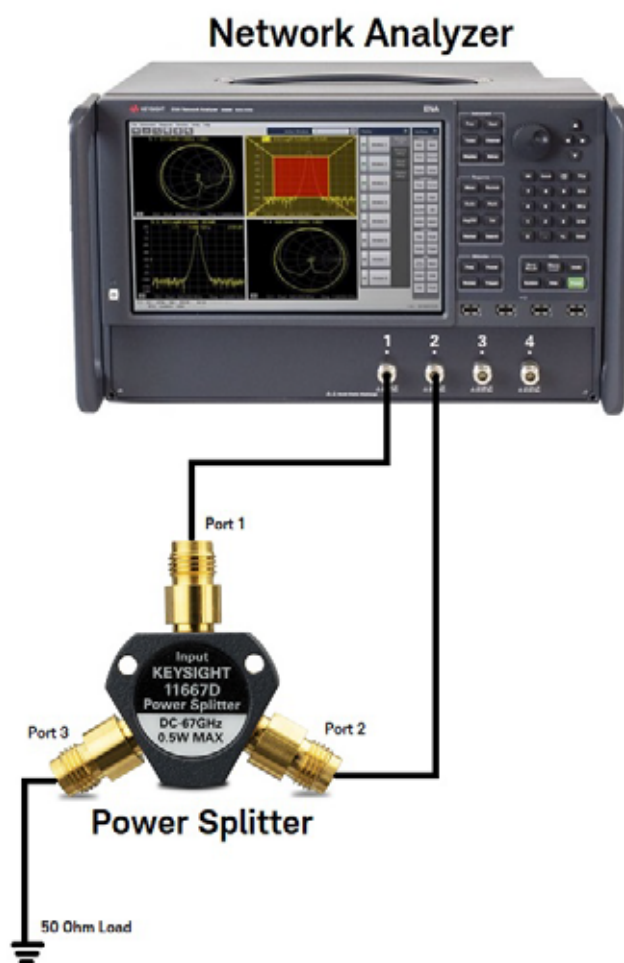

Figure 4-1 Input return loss test setup
- 2 Connect ports 1 and 2 of the power splitter to the ports 1 and 2 of the network analyzer respectively. Terminate port 3 of the power splitter with 50 ohm load (refer to Figure 4-1).